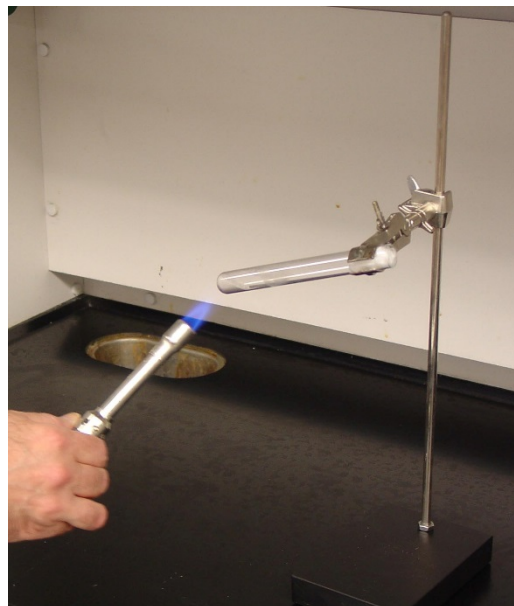

Figure 2. Experimental set-up.
1. Add a small amount of manganese (IV) oxide (about half as large as a pea) to a clean, dry test tube and determine the mass of the tube and manganese (IV) oxide on an *analytical* balance. Record this mass, using the proper number of significant figures and units, in the Data Section.
6. Clamp the test tube to a ring stand at a slight angle as shown in Figure 2. Be sure that the clamp does not have plastic sleeves as these will burn during the experiment. Place the clamp near the open end of the test tube so that the clamp will not melt while the test tube is being heated. (Don't squeeze the clamp too tightly as you may crack the tube.) Be sure the open end of the test tube is not pointed toward anyone or toward the lab aisles.